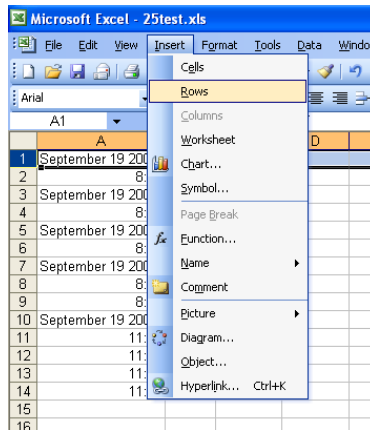

Figure 27
5. If you want a heading for the data, highlight the first row and select **R**ows from the **I**nsert Menu. Refer to Figure 27.